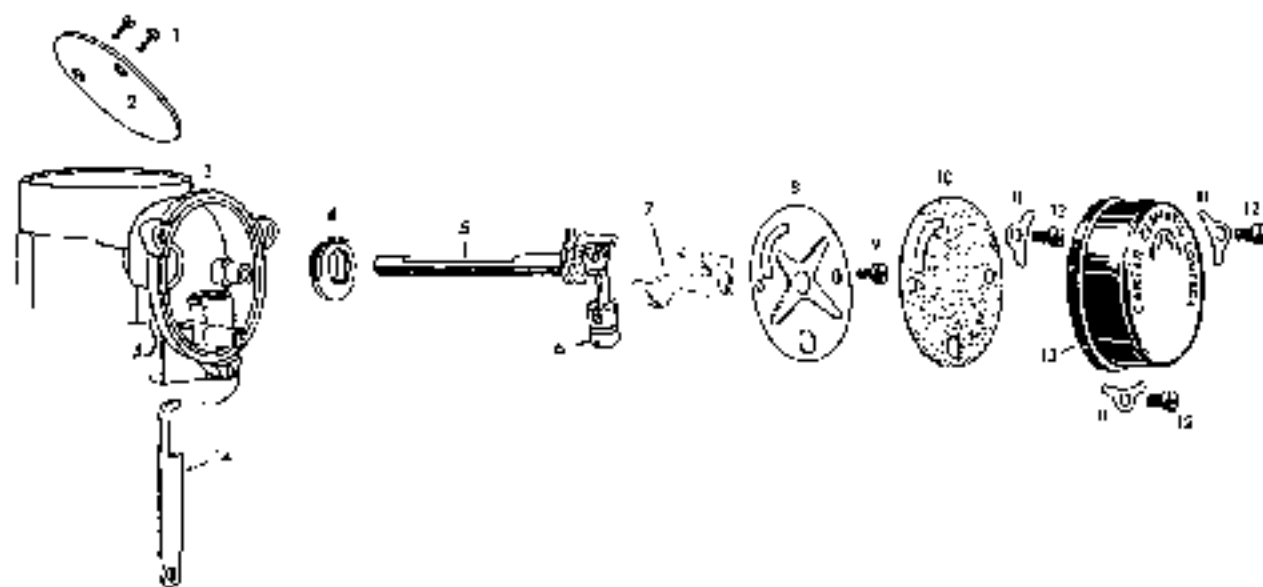

FIG. 399
Remove the climatic control housing (13, Fig. 399) with the gasket and gasket (11). Remove the screw (9) which holds the ball plate in the housing and remove the ball plate (8), choke trip lever (7), and fast idle link (14).